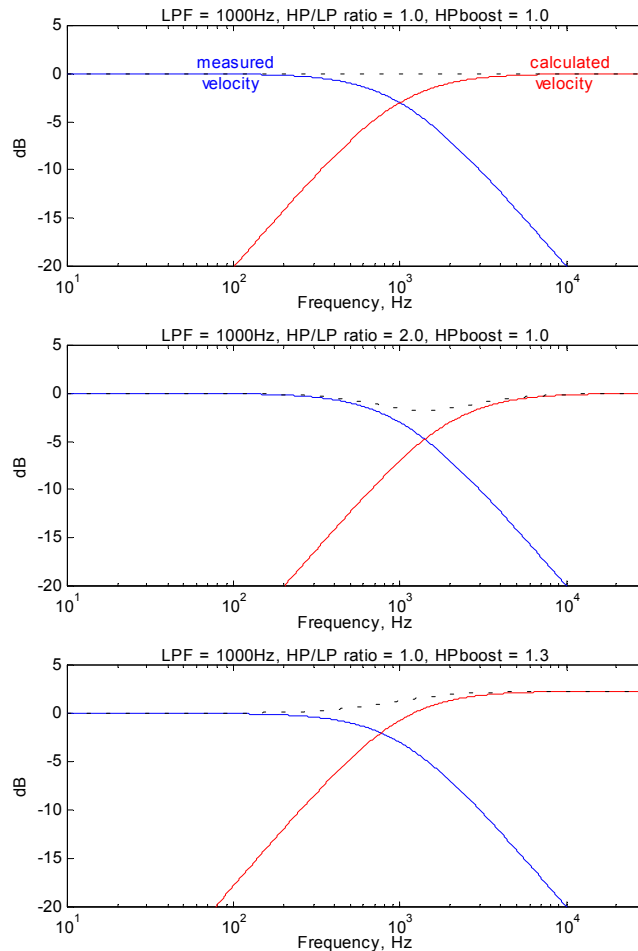

Figure 7.4 Effect of ratio and boost on velocity calculation.
ISD *Error Proportional* and *Integrated Error* correspond to the usual P and I terms. However, the ISD employs derivative-of-position *Velocity Damping* rather than conventional PID derivative-of-error “error damping”. In addition, the velocity term is a blend of lowpass (LP) filtered measured velocity ($\Delta\theta/\Delta t$) and a highpass (HP) filtered velocity estimate based on output voltage and a model of the galvo (defined jointly by *HF Velocity Model*, *Galvo Type*, and additional *Galvo Parameters*). Taking the derivative of measured position is an inherently noisy process, and the degree of LP filtering required does not provide adequate bandwidth for aggressive (i.e. fast) tuning. Estimating velocity as a function of voltage is basically an integrating process and the model is therefore much less prone to noise, but it has limited accuracy for periods longer than a few milliseconds. Taken together they provide a wideband, low noise velocity signal. *Damping LP cutoff* sets measured velocity LP filter frequency in Hertz. *Damping HP/LP cutoff ratio* adjusts the frequency of the estimated velocity HP filter relative to the LP filter although, as a rule, these frequencies should be identical (ratio = 1.0). Adjusting the gain level of high frequency damping relative to low frequency damping via *Damping HP boost* is more common. Figure 7.4 illustrates the effect of these adjustments. To first order, the selection of crossover frequency from measurement to model is arbitrary and dictated primarily by experiment for a given tune. Experience suggests that increases in cutoff frequency require corresponding increases in HP boost and that matched tunes generally have similar crossover frequencies for each axis.